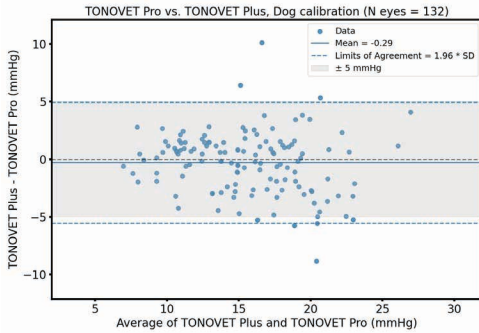

Figure 1. Dog calibration
- Figure 1 = Bland-Altman plot TONOVET Pro vs. TONOVET Plus dog calibration